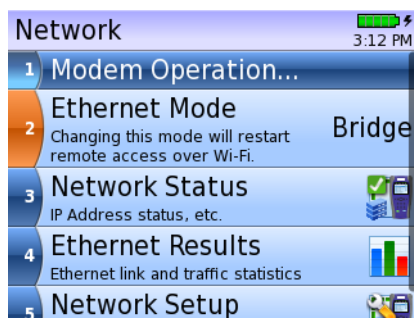
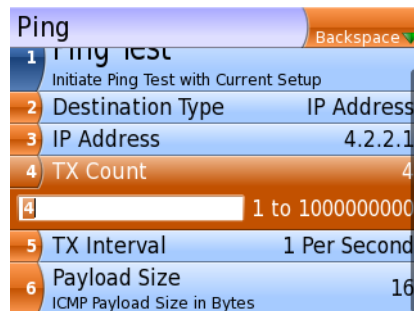

Figure 6 SmartClass Triple Play Services Menu screen (example)
Figure 7 SmartClass Triple Play Services Data entry screen (example)
- List - the selections appear in a list, as seen on the Network menu (Figure 6) or DSL Results (Figure 7).
Figure 6 illustrates a typical Menu screen.
Figure 7 illustrates a typical Data entry screen.
The ellipses (...) character appears at the end of a highlighted menu item to indicate that this item will take you to another screen (such as “Network Status...” in Figure 6 on page 14).